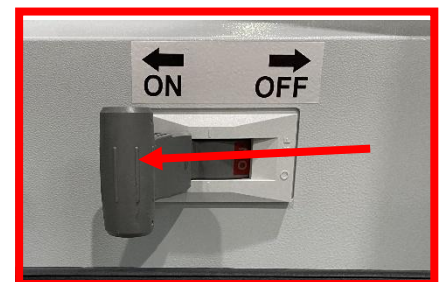

Figure 48 – Main Switch in the ON position
18. At site's AC circuit breaker, turn on breaker and check voltage input. If voltage input is not OK, turn OFF AC circuit breaker and troubleshoot the issue. If voltage input is OK, open left-side door of charger and move charger's Main Switch to the ON position (Figure 48).